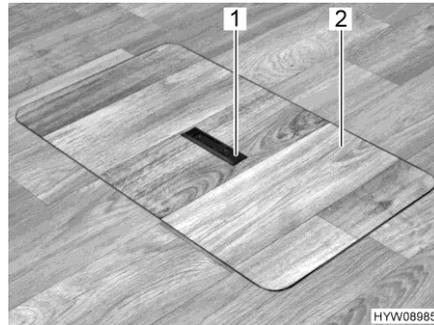
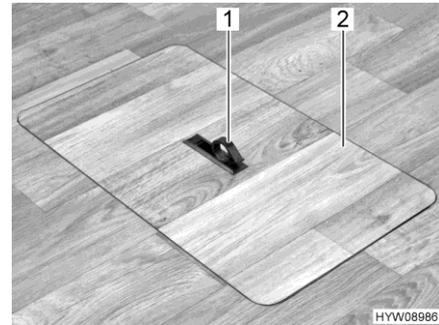

Fig. 52 Service cover (handle recessed)
Fig. 53 Service cover (handle swivelled out)
- Push one side of the grip plate (Fig. 52,1) downwards. The handle (Fig. 53,1) swivels upwards.
- Remove the service cover (Fig. 53,2) upwards.
- Insert the service cover (Fig. 53,2) in the frame in the floor.